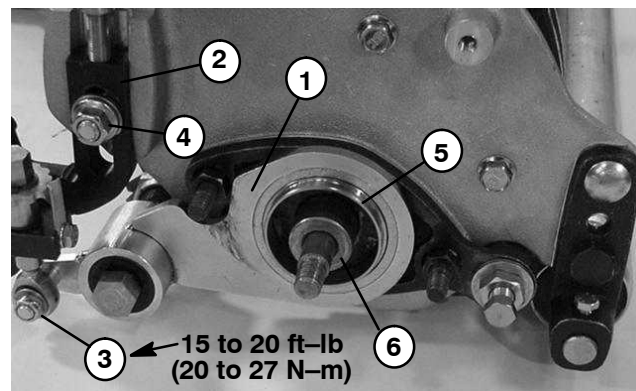

Figure 13
B. Remove locknut and belleville washer securing LH adjuster arm rod to LH groomer side plate pin (Fig. 13).